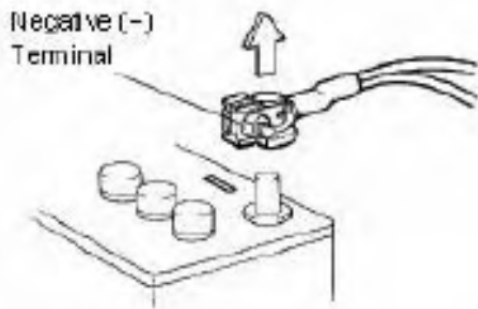

Figure 1
1. Disconnect the negative battery cable. Isolate the cable with protection in place. See Figure 1.